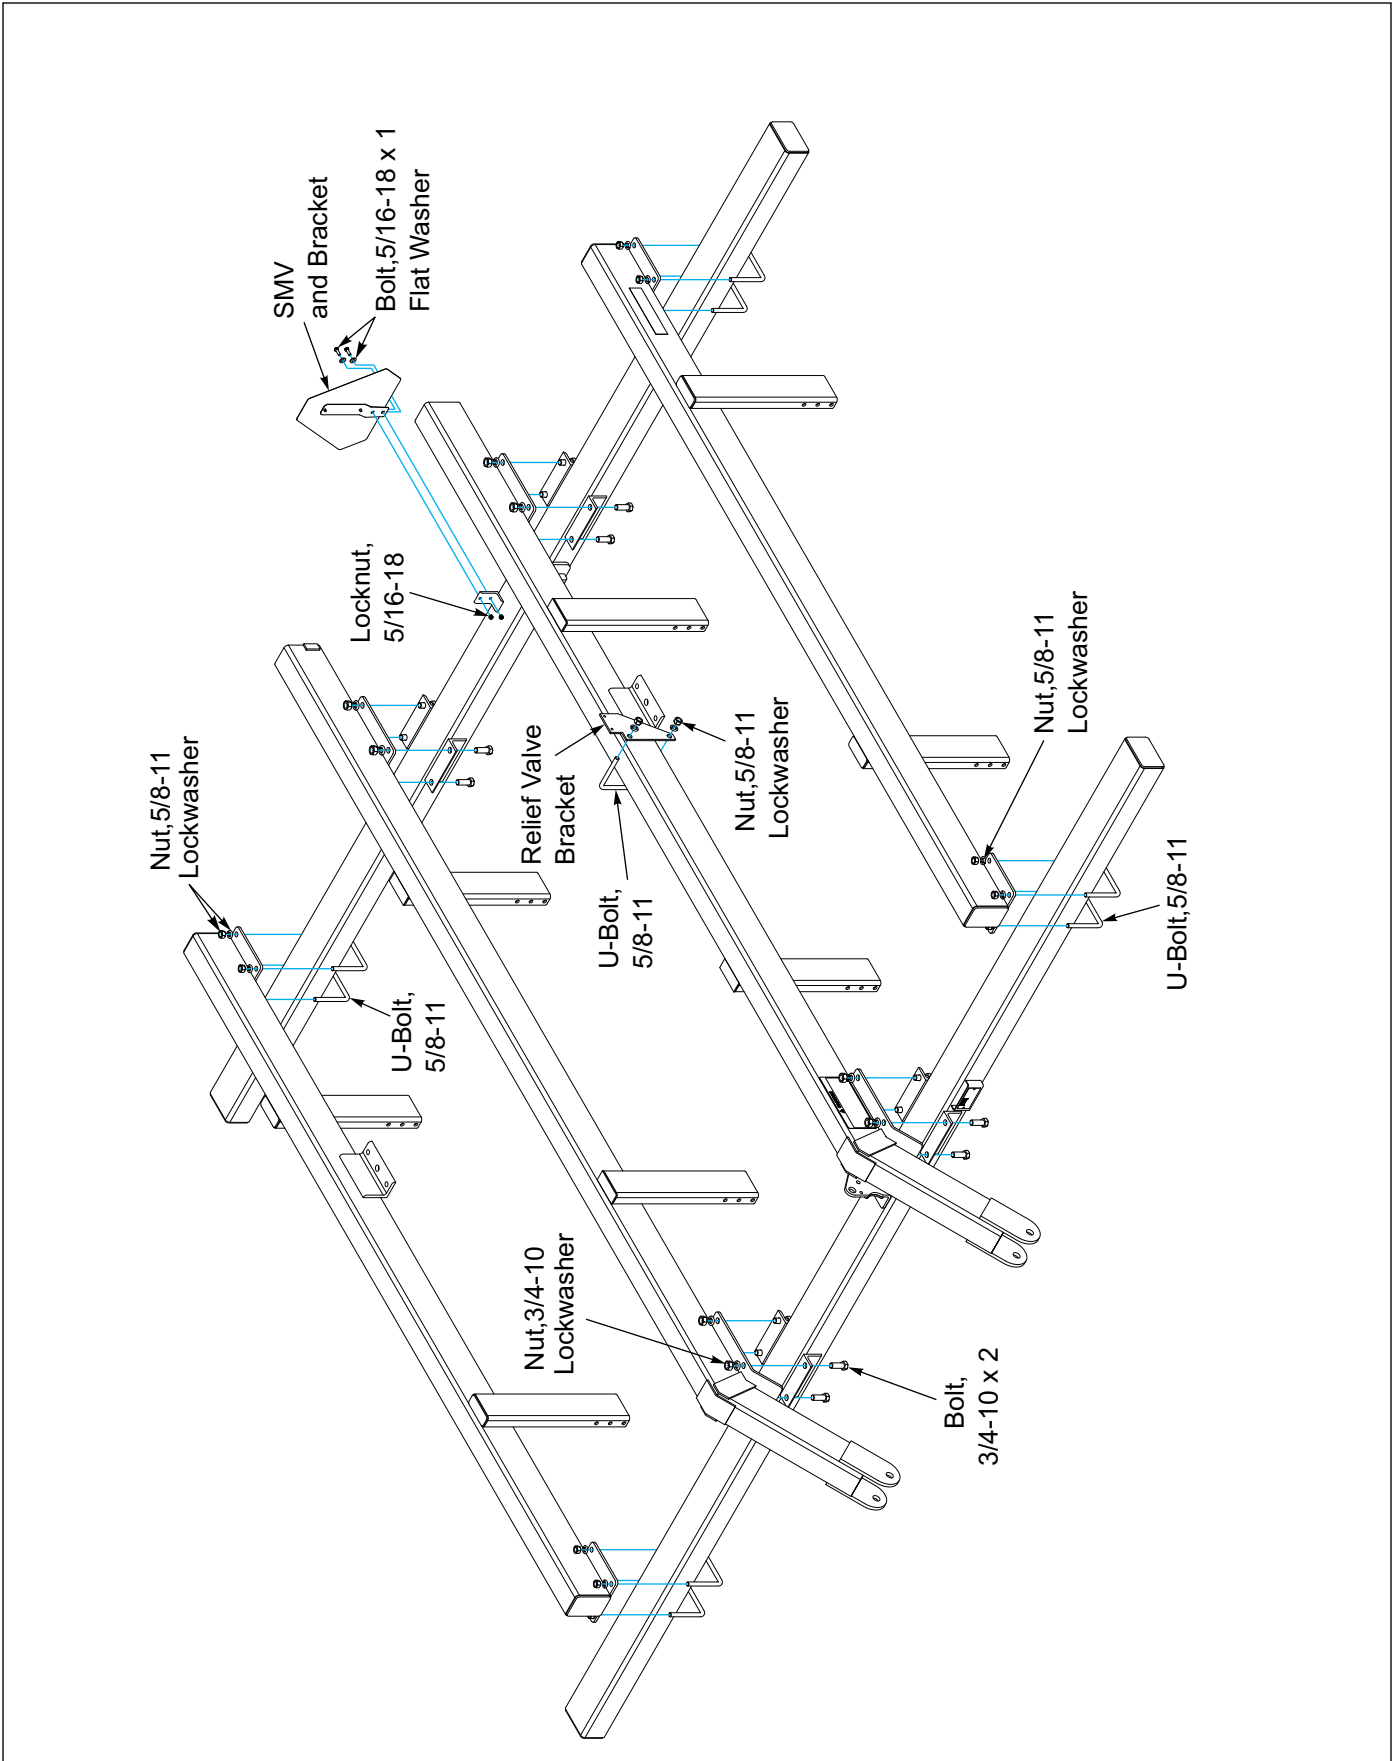

Figure 2-1: Frame Assembly
2. Position Inner Frame Tubes. Fasten Inner Frame Tubes to Front and Rear Tubes with 3/4-10 x 2 Bolts, Lockwashers and Nuts. Ensure that the Inner Frame Tubes are square with the Front and Rear Frame Tubes. **See Figures 2-1 and 2-2.**
3. Position Outer Frame Tubes. Fasten with 5/8-11 U-Bolts, Lockwashers and Nuts. **See Figures 2-1 and 2-2.**